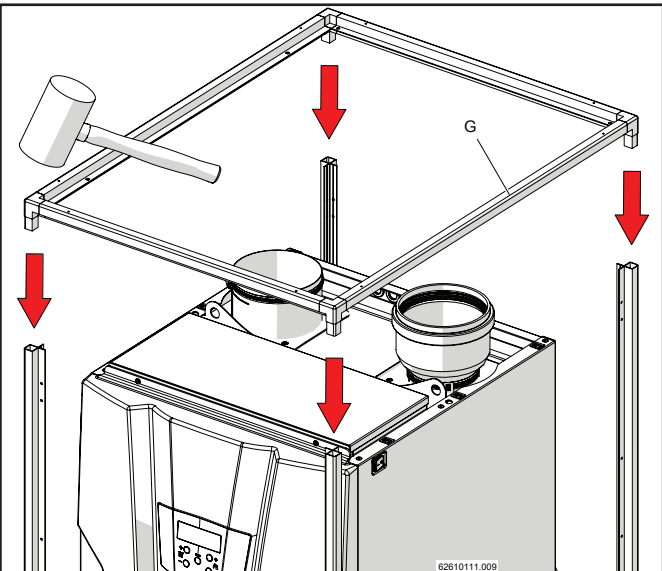

Figure 12-11
- 6.- Insert the upper frame "G" of the outdoor covering using a rubber hammer (figure 12-11).